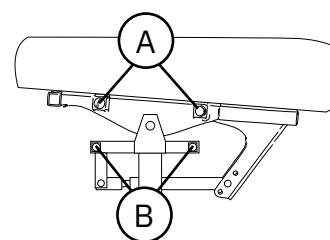

Figure 5.52. Armrest placement when using seat tilt.
When using a seat tilt, the armrests can be fitted so that they either move with the seat when it is angled or remain in their original position, see Figure 5.52. Armrests that move with the seat are standard for the electric seat tilt. Armrests that stay in their original position are standard for the manual seat tilt. The Hemiplegia armrest must always be fitted so that it moves with the angle of seat tilt.
Armrests can be fitted so that they move with the angle of the seat (A) or so that they remain in their original position (B), see Figure 5.52.